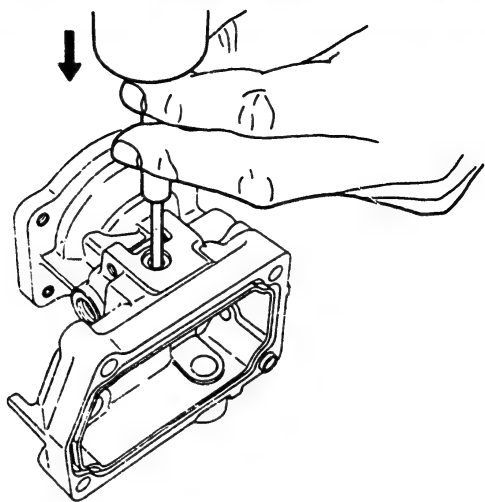

Fig. 66 Removing the lever pin
15. Extract the aneroid compensator lever pin (67/57), using the extractor (KDEP 2615) and a plastic mallet, by tapping it from the right-hand side (viewed from the drive side). (Fig. 66)